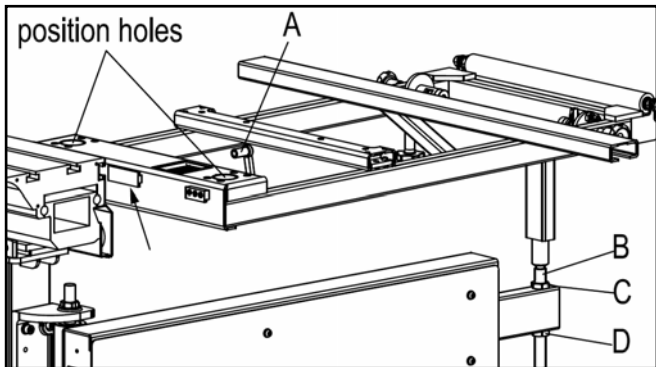
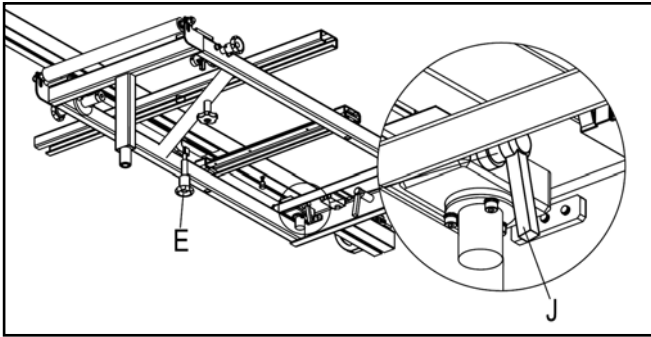

Fig.18
Fig.19-1
b. Align the screw shaft (B) of swing arm to the hole on the bottom of crosscut table (**Fig. 18**), and adjust the screw C & D, keep the surface of the crosscut table is parallel to the surface of the sliding table, then tighten the screw C & D. Lock the crosscut table with handle A, see **Fig. 18**.
c, The outrigger table system with swing arm will be in working position, install the crosscut fence onto the crosscut table with two positioning holes (**Fig.18**). Lock the fence onto the crosscut table with the knob (J) & (E), release knob (E), you can swing the fence, and can be locked in any degree (± 45 degree) with lock knobs (E), see **Fig.19-1**.